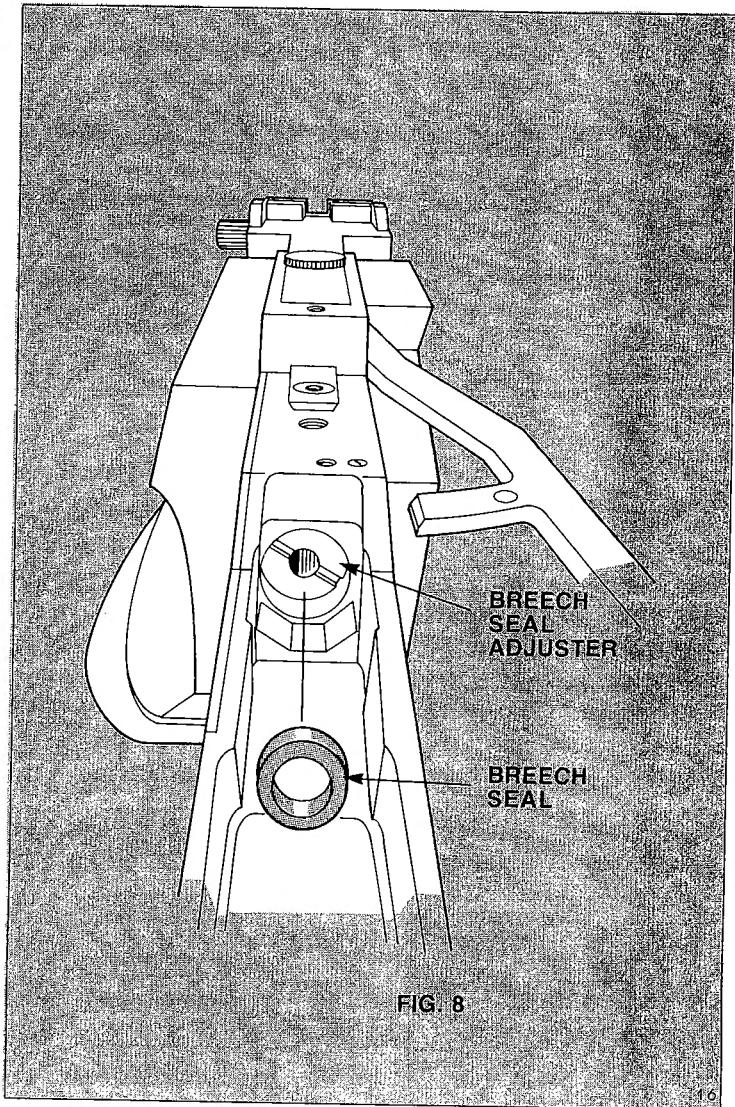

FIG. 8
3. The pistol may be leaking in the area of the breech seal. To prevent this leakage remove the breech seal with a blunt tool, such as an allen wrench. Turn the breech seal adjuster counterclockwise 1/8 of a turn at a time to correct the problem. If you turn the seal adjuster too far the barrel will not open. (Fig. 8)